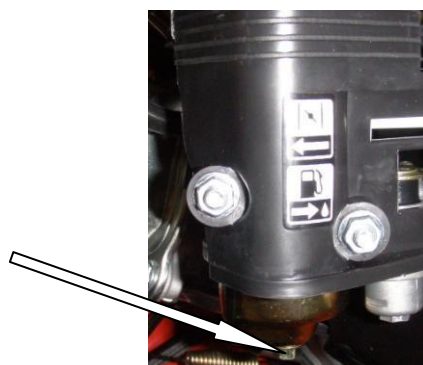

Figure 19
- If any fuel remained in the fuel tank, screw off the drain bolt of the carburettor chamber and drain the fuel from the carburettor (Figure 19).